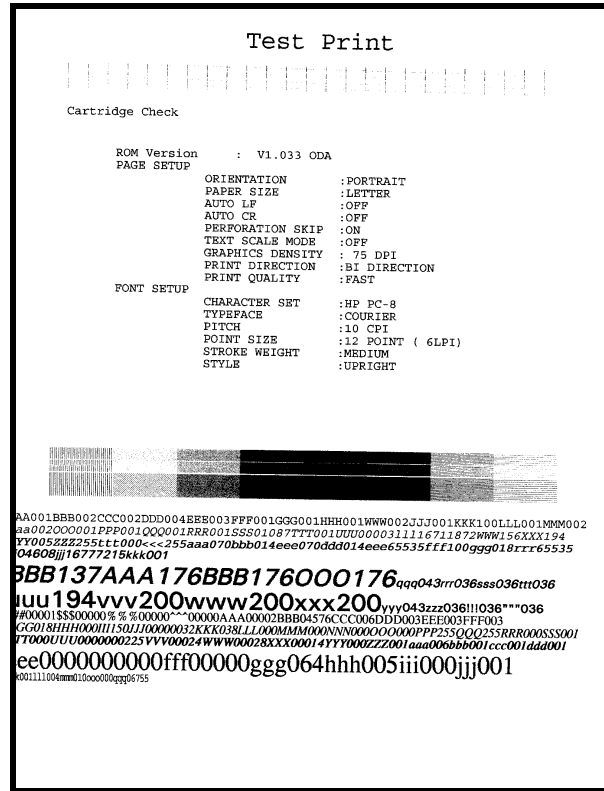

Figure 1. Test Print
- c. While pressing and holding the **Resume/FF** button press and release the **Power on / Reset** button. The printer prints the test print shown in Figure 1. When the test print is complete, the printer initializes and returns to the Ready status.